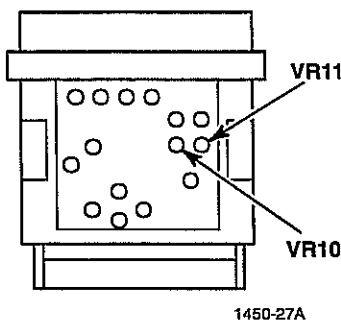

Figure 3-22.
- b. Adjust VR10 (Figure 3-22) for $1.50 \text{ VDC} \pm 0.05 \text{ VDC}$.
- b. Adjust VR11 (Figure 3-22) for $1.50 \text{ VDC} \pm 0.05 \text{ VDC}$.